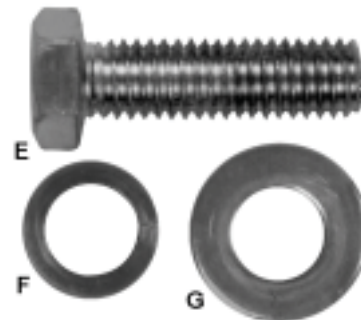

Figure 5
1. Remove *shipping bracket* (A) securing the *motor* (C) to table.
2. Remove the remaining *hex cap screw*, *lock washer*, and *flat washer* (Fig. 5) in the table edge.
3. Install *motor cover* (G) by aligning the *pins* (H) on the cover with *brackets* on the cabinet.
4. Fasten cover by pulling out the *latch* (J), closing the door, and releasing the latch.
**Hardware:** (6) 7/16"x1-1/2" Hex Cap Bolts, (6) 7/16" Lock Washers, (6) 7/16" Flat Washers & (2) Extension Tables
1. Attach the left *extension wing* (A) to the *table* (B) with three each *hex cap screws* (E), *lock washers* (F) and *flat washers* (G). Snug so the extension wing can still be manually adjusted but do not tighten.
2. Adjust the extension wing horizontally so the front edge is flush with the front edge of the saw table (C). Then, using the straightedge as reference, adjust vertically so the tops of the extension wing and saw table are flush.
4. Remove the mounting hardware (Fig. 5) from the table on the right side; then attach the right extension wing in the same manner.